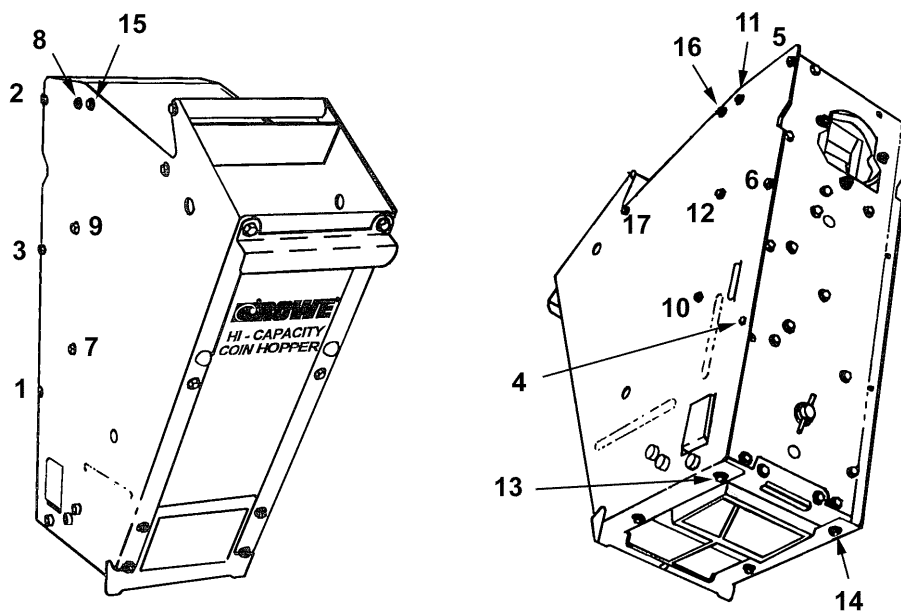

Figure 3-4C
4. Reassemble the hopper (when finished cleaning) by replacing the back chain plate assembly and starting all screws removed. Once all screws have been started, they may then be tightened. The screws must be tightened in sequence as shown in *Figure 3-4C*.